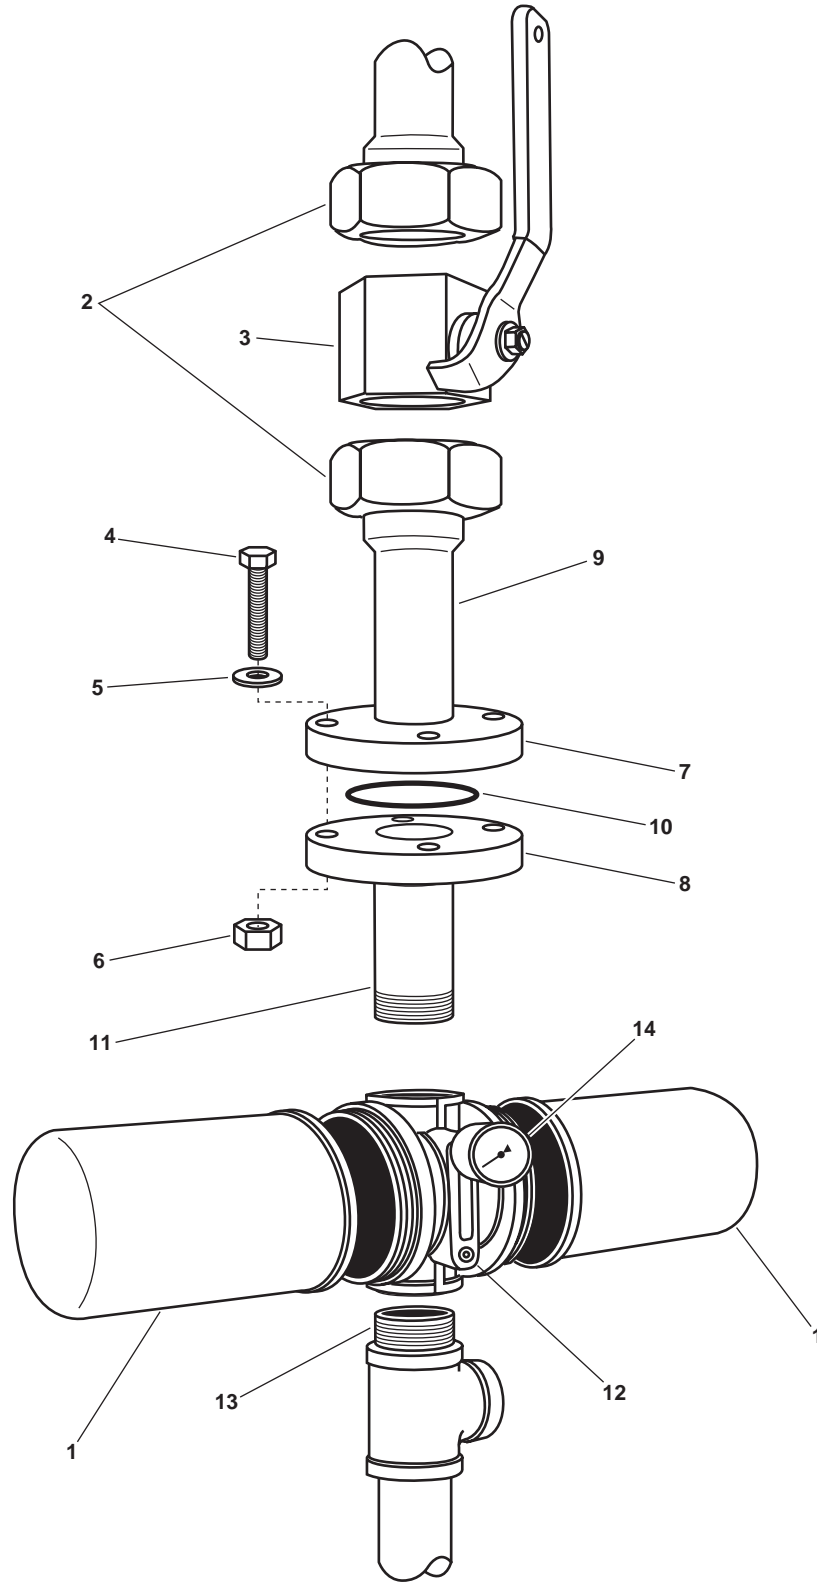

Figure 1. Hydraulic Filter Base Replacement
1. Place a suitable drain pan under the hydraulic filters (figure 1, item 1).
2. Remove the hydraulic filters (figure 1, item 1) and allow them to drain into the suitable drain pan.
3. Loosen the two unions (figure 1, item 2) on the ball valve (figure 1, item 3).
4. Remove the ball valve (figure 1, item 3) from the two unions (figure 1, item 2).
5. Remove the four bolts (figure 1, item 4), four flat washers (figure 1, item 5), and four nuts (figure 1, item 6) from the upper flange (figure 1, item 7) and the lower flange (figure 1, item 8).
6. Remove the pipe section (figure 1, item 9) and the upper flange (figure 1, item 7) from the lower flange (figure 1, item 8).
7. Remove and discard the gasket (figure 1, item 10).
8. Remove the lower flange (figure 1, item 8) and pipe nipple (figure 1, item 11) as an assembly from the hydraulic filter base (figure 1, item 12).
9. Remove the hydraulic filter base (figure 1, item 12) from the pipe nipple (figure 1, item 13).
10. Remove the pressure gauge (figure 1, item 14) from the hydraulic filter base (figure 1, item 12).
1. Install the pressure gauge (figure 1, item 14) in the hydraulic filter base (figure 1, item 12).
2. Install the hydraulic filter base (figure 1, item 12) on the pipe nipple (figure 1, item 13).
3. Install the pipe nipple (figure 1, item 11) and the lower flange (figure 1, item 8) assembly in the hydraulic filter base (figure 1, item 12).
4. Install a new gasket (figure 1, item 10) on the lower flange (figure 1, item 8).
5. Install the pipe section (figure 1, item 9) and the upper flange (figure 1, item 7) on the lower flange (figure 1, item 8) and secure them with the four bolts (figure 1, item 4), four flat washers (figure 1, item 5), and four nuts (figure 1, item 6).